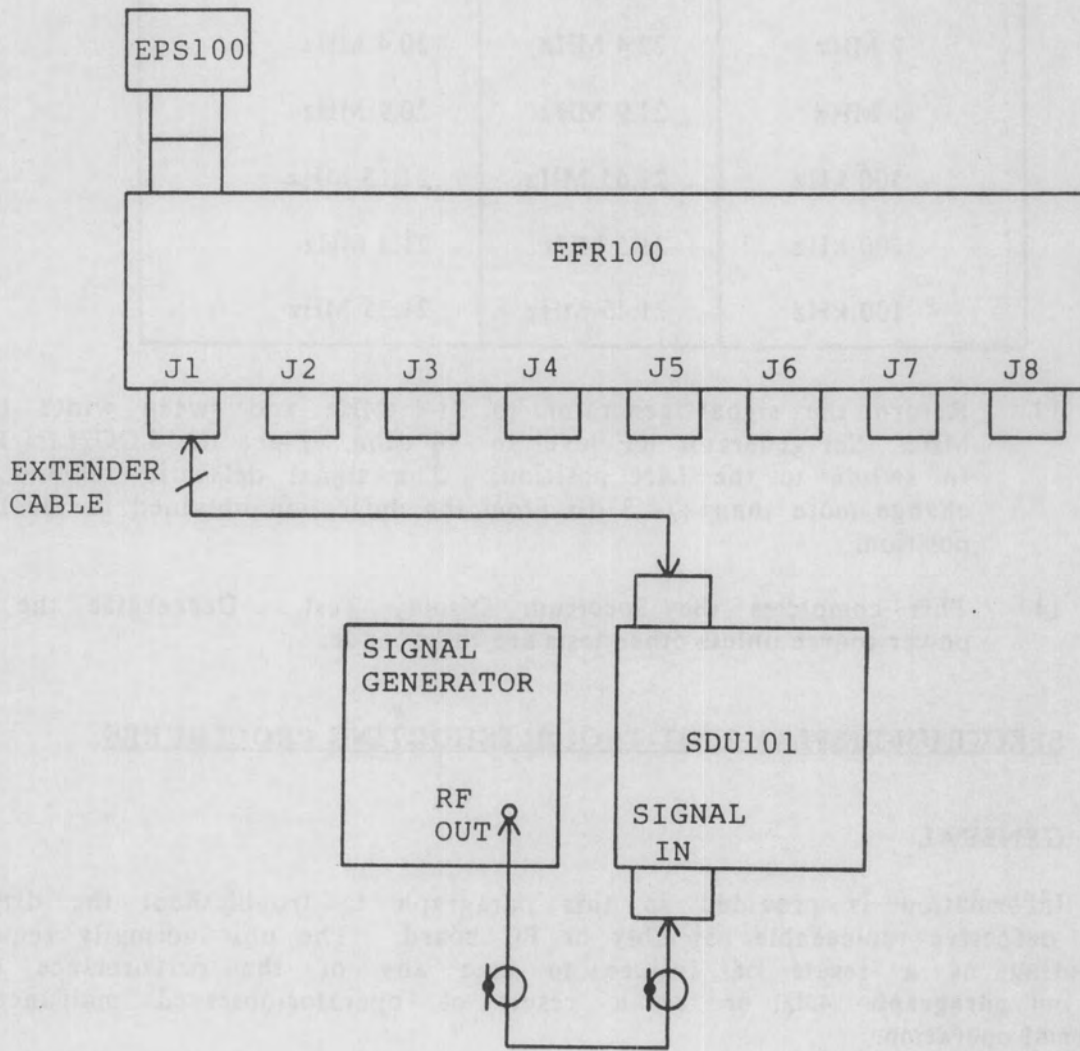

Figure 4-1. WJ 9040 SDU101 Spectrum Display Unit Test Setup
1. Connect the spectrum display unit as shown in **Figure 4-1**.